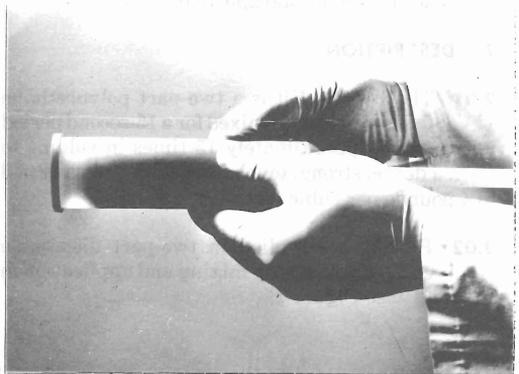

FIGURE 4
5.03 Squeeze the cartridge lightly in the area of the removed tape band to deform the foil barrier. (see Figure 4)